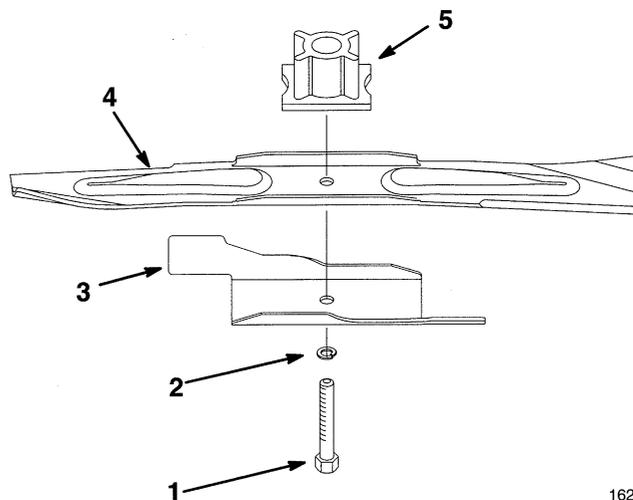

Figure 23
5. REMOVING BLADE—Grasp end of blade using a rag or thickly padded glove. Remove blade bolt, lockwasher, blade accelerator, blade and retainer (Fig. 23).